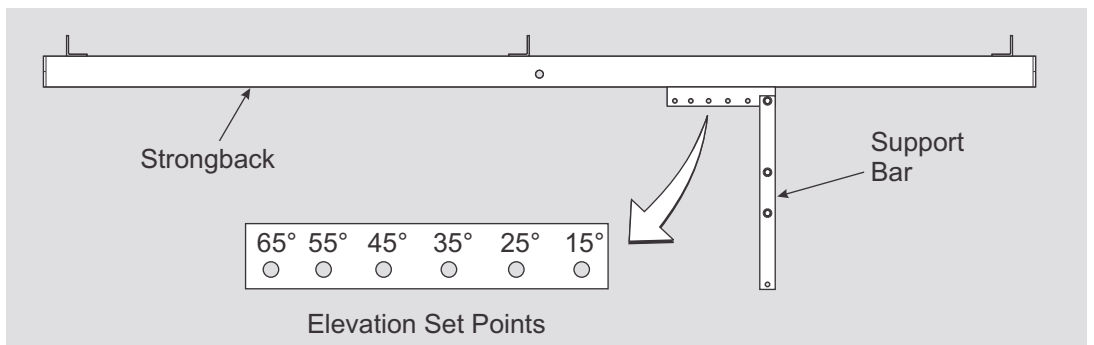

Figure 7-2: Setting the Tilt Angle
- B. Tilt the rack to the desired elevation angle (i.e., 15°, 25°, 35°, 45°, 55°, or 65°) and re-attach the Support Bar to the Strongback placing the 3/8" hardware in the appropriate hole matching the desired elevation. **Torque to 32-34 ft.-lbs.** (See Figure 7-2)